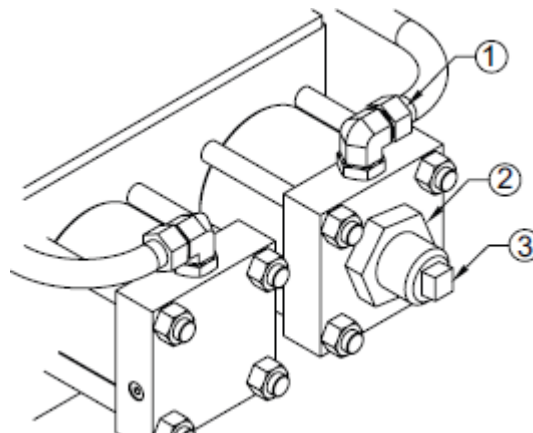

Figure 35: Stroke Adjustment
Actuator stroke adjusters prevent the actuator from over-traveling during a fail-safe condition. If the driven device does not limit over-rotation or over-travel, stroke adjusters can be utilized for this purpose. These stroke adjusters can reduce cylinder rotation by 0° to 5°. See Figure 35 for details.
4. Locate the hydraulic fitting (1) connected directly to the stroke adjuster cylinder cap as shown in Figure 35. Loosen this fitting to allow oil to escape during this adjustment process. Ensure to capture any oil that escapes.
5. Loosen the jam nut (2), shown in Figure 35, by turning counterclockwise. Back off this jam nut 4 to 5 turns and move the countersunk washer away from the thread seal and against the repositioned jam nut.
8. The actuator stroke adjustment can now be made using the threaded adjustment rod (3), shown in Figure 35.